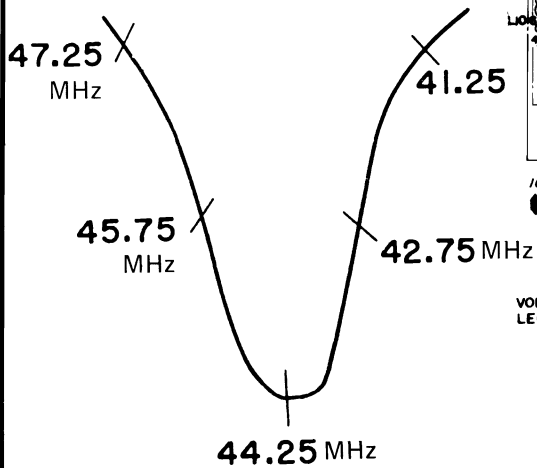

Figure 3
10. In the manner specified in step 8, adjust T202 (Top and Bottom) to obtain a waveform on the oscilloscope equivalent to the pattern shown in Figure 3.